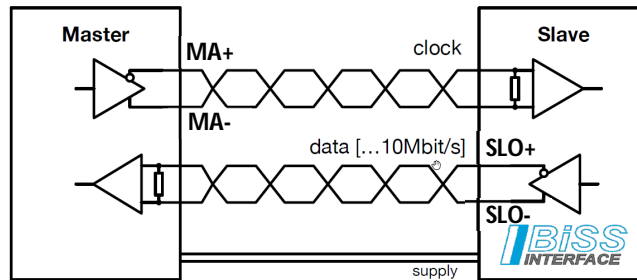

Figure 1: BiSS Interface, point-to-point.
The BiSS C interface provides a communication connection between a master device, representing the motor control unit and its connected slave device, representing the kit encoder. The devices are connected in a point to point configuration, that only requires two unidirectional lines (clock and data) using differential signaling each. The slave device is synchronized by the clock signal (MA), generated by the master. Therefore, it receives the transferred clocks and passes on its generated signal to the slave output line (SLO), which is directly connected to the input line of the master (see figure 1). A detailed description of the protocol is presented by iC-Haus [1].